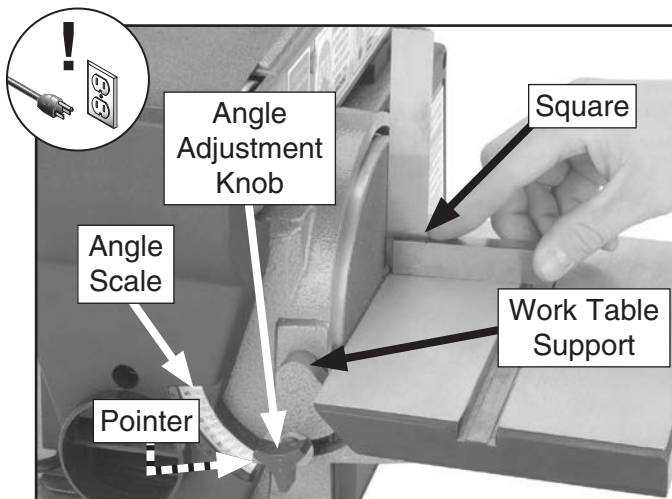

Figure 16. Setting work table angle.
2. Loosen angle adjustment knob, and position work table so pointer on end of work table support aligns with desired angle on angle scale (see **Figure 16**).